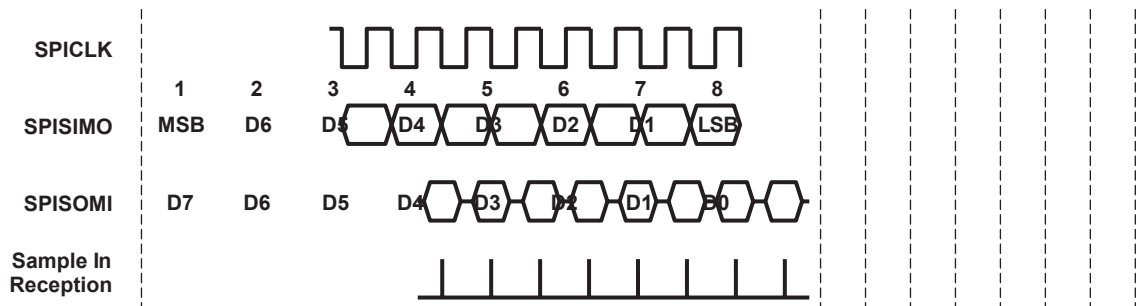

Figure 28. SPI Mode for Communication
- SPI mode for communication: In the SPI-boot modes, the received data is sampled at the rising edge of the clock and the data to be transmitted on the falling edge of the clock as shown in Figure 28: